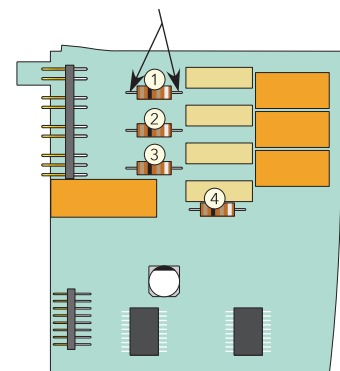

Figure 45 Snubber resistor locations
4. Once the board has been removed, and placed in a suitable static safe area, the relevant resistor leads can be cut, using a suitable pair of side cutters or similar. Figure 45 shows the locations of the relevant resistors numbered according to their associated relay. The snubber circuits are also identified on the circuit board.